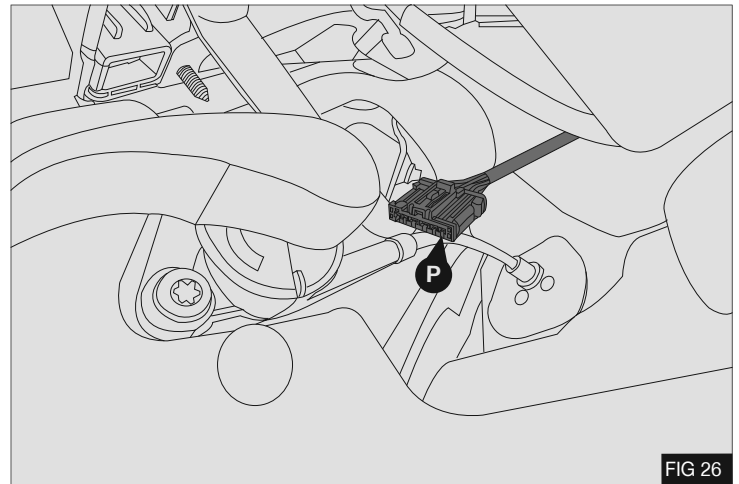

FIG 26
7. The 6 way connector (P) (black plug) is located in the left hand area of the dashboard behind the passenger compartment fuse and relay box. It is secured on the dashboard wiring using a tear-off link. Extra length is provided for the connection - Fig 26